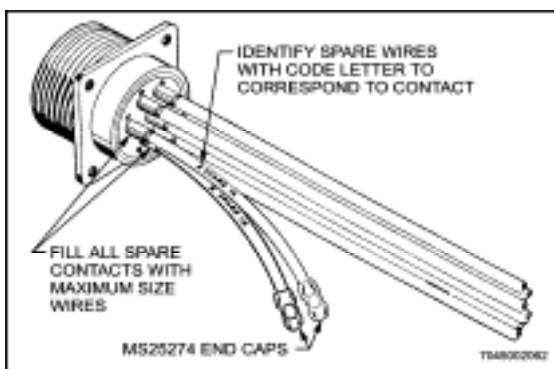

Figure 10–34 Spare Wires for Potting Connector
Spare wires should be installed in all unused contacts. Use the largest gauge wire suitable for each contact. Spare wires should be approximately 23cm long. (See Figure 10–34.)
- c. Insulate the ends of all spare wires. (See Figure 10–34). The preferred method of insulating a spare wire is to crimp it into an MS25274 wire end cap (Table 10–11) with tool as detailed in Section 2, Chapter 6. The procedure for crimping wire end caps with standard tool is as follows:
- (1) Select an end cap of the correct size for the wire to be insulated
- (2) Make sure the locator is properly positioned behind the lower nest. Position the wire end cap in the correct die nest with the closed end of the cap resting against the locator.
- (3) Insert the stripped wire so that the end of the stripped wire is seated against the closed end of the cap, and the insulation is against the metal sleeve of the cap.
- (4) Close tool handles until ratchet releases and the tool opens. Remove the crimped assembly.